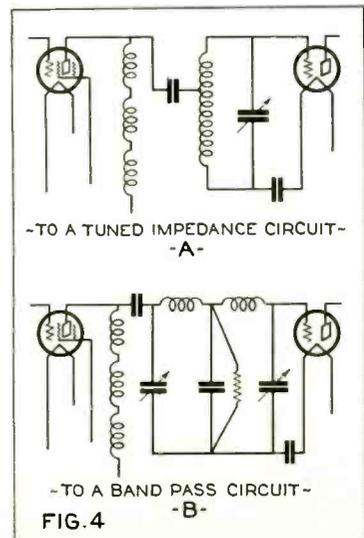

FIG. 4
Therefore, the denominator of the equation (7) is twice as large as that of equation (6) and the voltage ratio when the band-pass circuit is used is one-half that obtainable with an ordinary tuned circuit. Now assume that the band-pass filter had been placed after one of the screen-grid tubes. The circuit is shown in Fig. 4-B. The load impedance would be that of a tuned circuit and is equal to